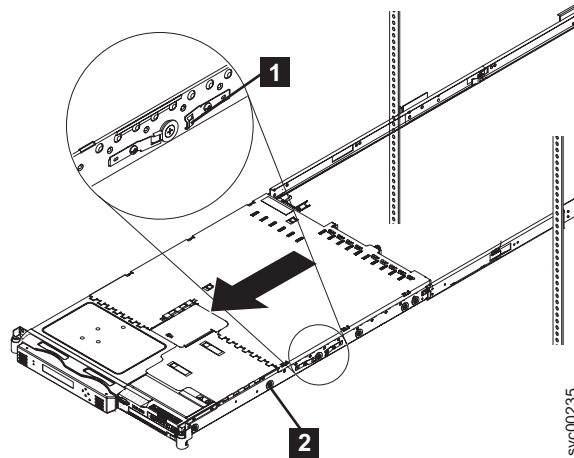

Figure 39. Removing the SAN Volume Controller 2145-8G4 from the rack
4. Position yourself to support the weight of the node when it is no longer held by the slides and then press the rear slide release latches (**1** in Figure 39 on page 57) on both sides of the SAN Volume Controller 2145-8G4 node.